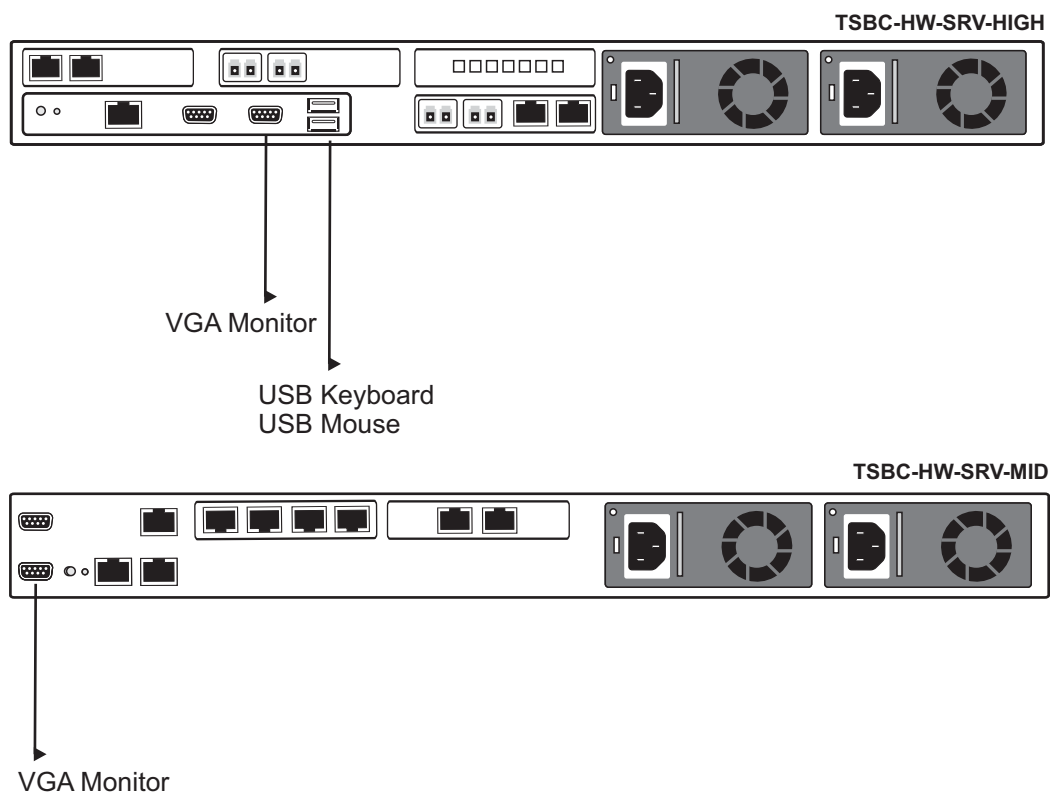

Figure 7.4 USB to DB9 Adapter
1. Connect a VGA monitor to the VGA port of the TSBC-HW-SRV. Connect a USB keyboard to an available USB port on the TSBC-HW-SRV. Do the same for a USB mouse See Figure 7.4 on page 41.